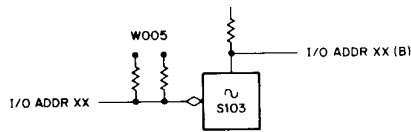

Figure 2-15 IO ADDR Input Logic to Computer
IO ADDR Input Logic - The IO ADDR input logic (Figure 2-15) consists of Type S103 Inverters and two 5-mA clamped loads from a W005 module. The output of this circuit is the IO ADDR XX(B) signal
which goes to the input mixer circuit shown in Figure 2-15.